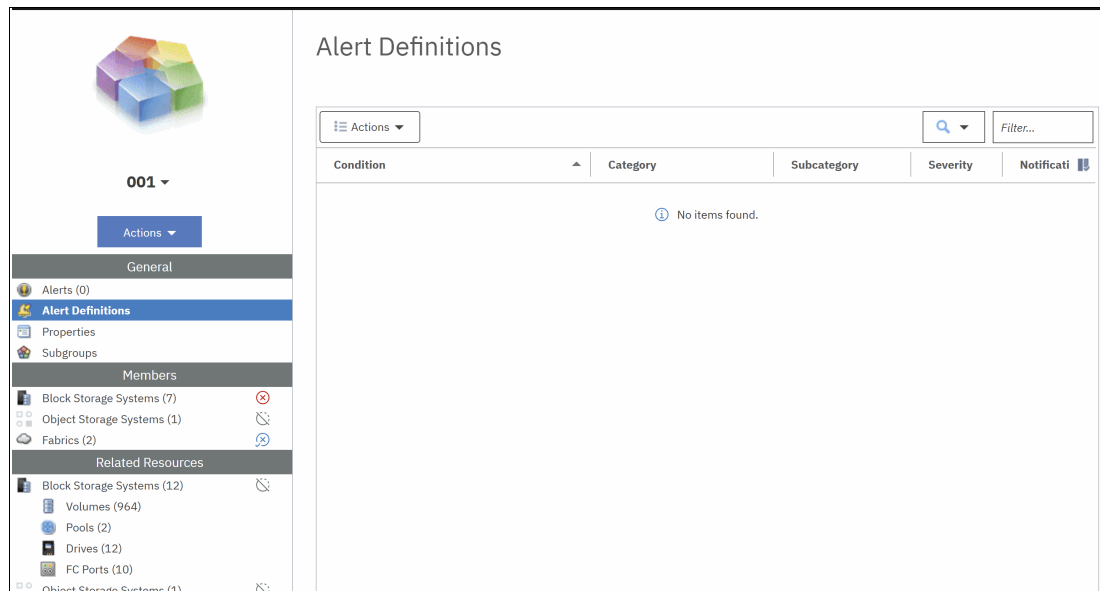

Figure 7-15 Alert definition list
2. Click **Edit Alert Definitions** from the list of alert definitions that are shown in Figure 7-15.